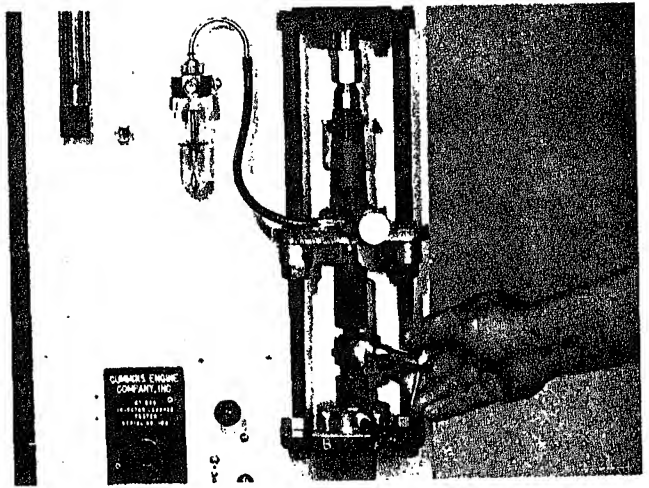

Fig. 6-1-34. Tightening T-handle clamp
6. Tighten T-handle clamp. See Fig. 6-1-34.